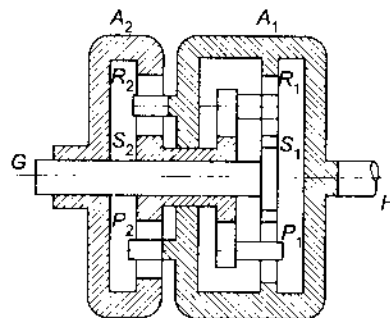

Fig.12.29 Epicyclic gear train
- 8 An epicyclic gear train is shown in Fig.12.29. The main driving shaft G has a gear S_1 integrally mounted and driving the internal gear A_1 on the casing through two intermediate gears P_1 mounted on either side. The gears P_1 are free to revolve on arms R_1 which are integral with gear S_2 which in turn drives the internal gear A_2 on another casing through two gears P_2 . The driven shaft H is integral with the casing carrying the internal gear A_1 and arms R_2 on which the gears P_2 are free to rotate. The casing A_2 and gear S_2 are free to rotate on shaft G .